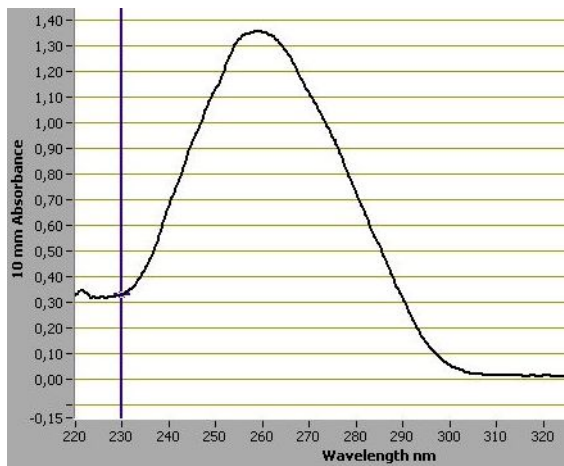

Figure 2 Typical spectrum of pure DNA
- 4 Record the A_{260}/A_{280} and A_{260}/A_{230} ratios. High-quality gDNA samples have an A_{260}/A_{280} ratio of 1.8 to 2.0, which indicates the absence of contaminating proteins. Scanning the absorbance from 220-320 nm will show whether contaminants exist that affect absorbance at 260 nm. Check the absorbance scans for a peak at 260 nm and an overall smooth shape as shown in **Figure 2**. The ideal 260/230 ratio for pure DNA is >1.0 .